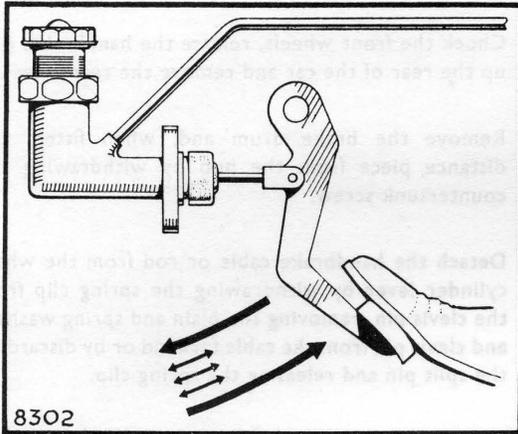

Fig. 4. Indicating the long and short pedal strokes necessary to bleed the hydraulic system of air
4. Slacken off the bleed screw half to three-quarters of a turn and with an assistant depress the brake pedal a succession of long and short rapid strokes, i.e. the pedal depressed through its full stroke followed by two or three short rapid strokes and then allowed to fly back to the stop with the foot removed; any floor covering that prevents the full pedal stroke must be removed. Actuate the brake pedal in this manner until the fluid entering the glass vessel is free from air bubbles and then re-tighten the bleed screw on the next downward stroke of the brake pedal to the tightening torque given in the "General Data Section" (Fig. 4).